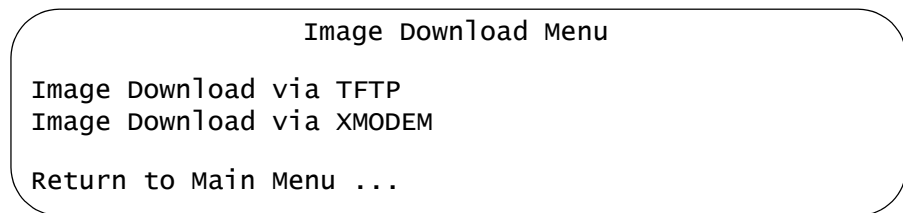

Figure 126. Image Download Menu
1. From the Main Menu, select **Image Download** to display the menu in Figure 126.
1. From the Main Menu, select **Image Download** to display the menu in Figure 126 on page 276.